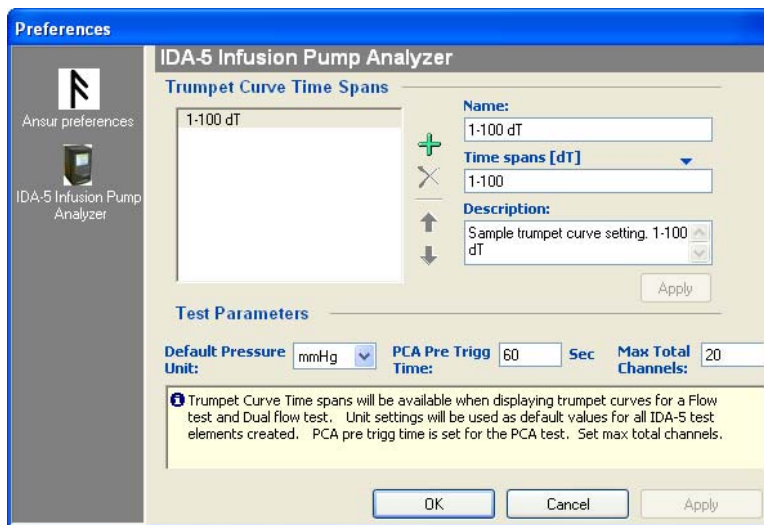

Figure 4-1. Preferences Window
2. Click the **IDA-5 Infusion Pump Analyzer** icon to show the preferences as shown in Figure 4-1.